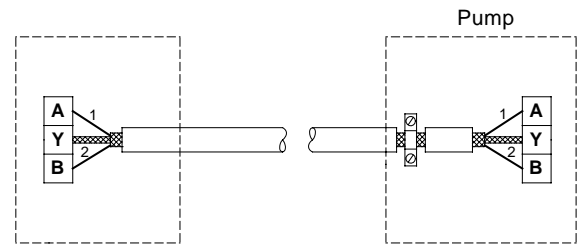

Fig. 14 Connection with screened 2-core cable
- If a screened 2-core cable is used in the existing installation, it must be connected as shown in fig. 14.